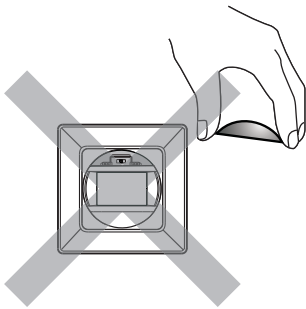

FIG.20
**Note:** Do not take off the slide switch (See FIG.20).